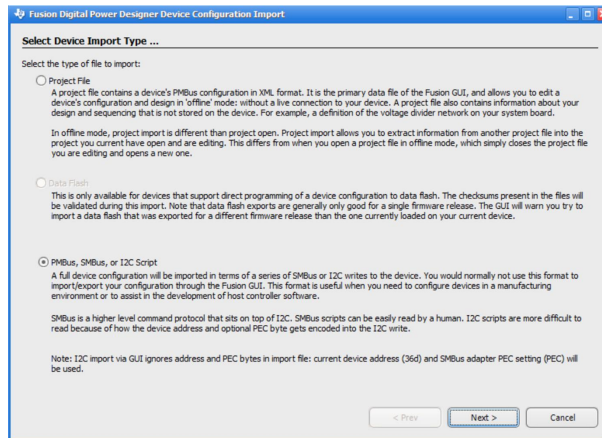

Figure 17. Selecting Device Import Type
1. Click File, then click Import to Device. Choose the preferred file type (as shown in Figure 17) and click the Next button to continue.